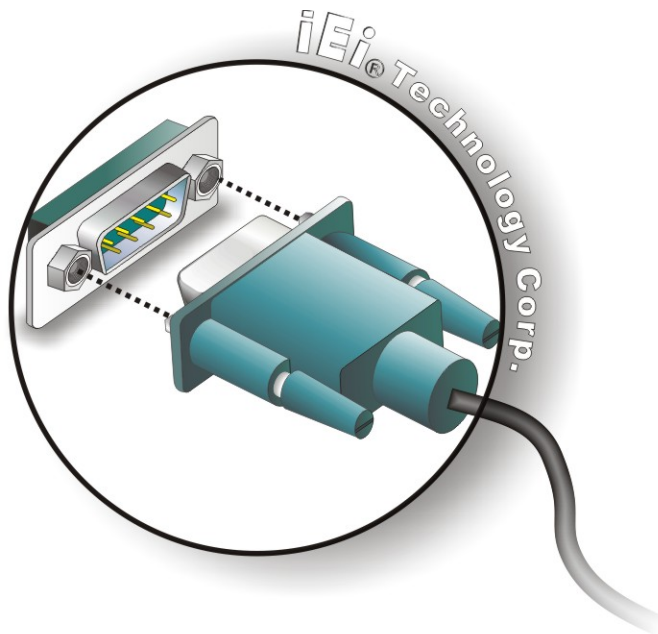

Figure 4-20: DB-9 Serial Port Connector
Step 2: **Insert the serial connector.** Insert the DB-9 connector of a serial device into the DB-9 connector on the bottom panel. See **Figure 4-20**.